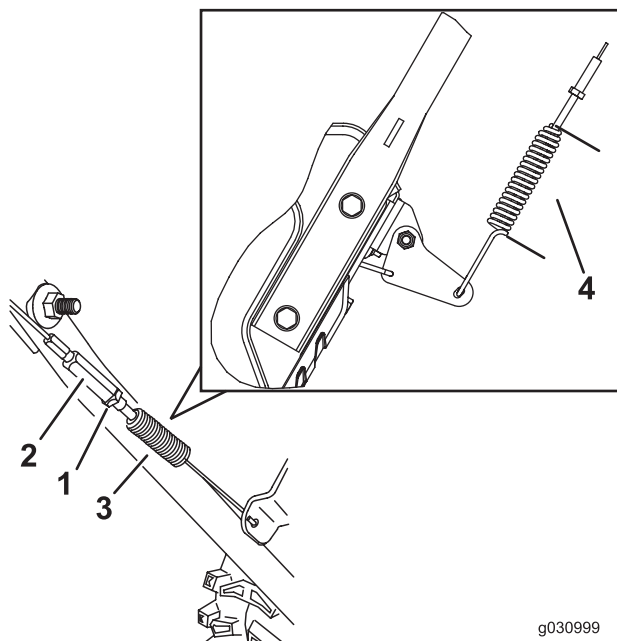

Figure 36
3. Loosen or tighten the turnbuckle to adjust spring length to 2.18 inches (5.5 cm) (Figure 36).
4. Tighten the jam nut (Figure 36), ensuring there is slight tension on the cable.